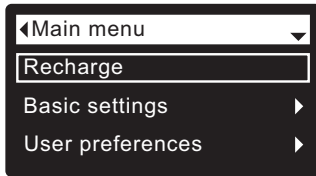
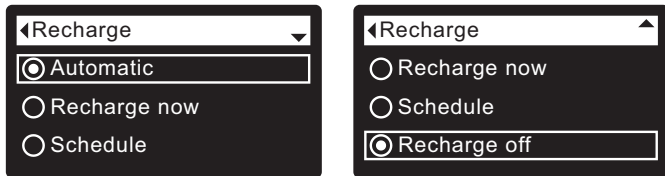
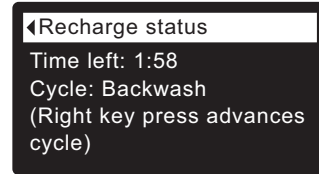

FIG. 42
FIG. 43
FIG. 44
2. Make sure **Recharge** is highlighted (See Figure 42).
3. Press the SELECT (O) button to display the Recharge menu (See Figure 43).
4. If the desired option already has a dot next to it (See Figure 43), go to Step 5. Otherwise, press the DOWN (▼) or UP (▲) buttons to scroll to the desired option, then press SELECT (O) to choose it.
- **Recharge now** begins a recharge immediately after the SELECT (O) button is pushed again in Step 5.
5. Press the SELECT (O) button. If **Recharge now** is selected, the display immediately goes to the Recharge status screen (See Figure 44). If **Automatic**, **Schedule**, or **Recharge off** are selected, the display goes back to the Main menu (Figure 42).